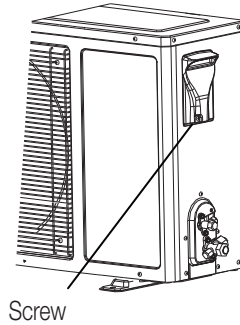

Fig. 13
- Unscrew and dismantle the electronic device lid (Fig.13).